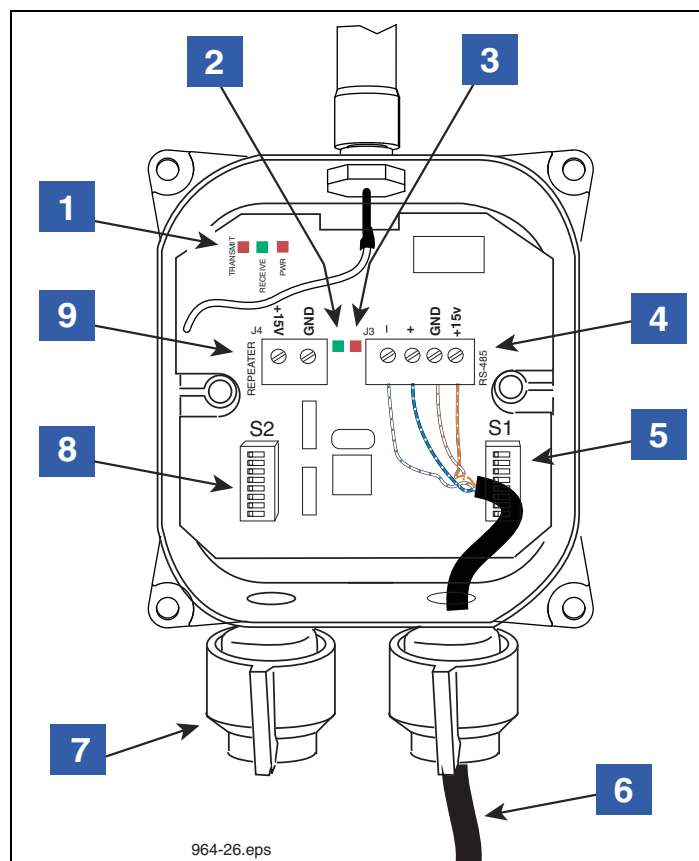

Figure 23. Wiring The Receiver
6. Note that there are two twisted pair color-coded wires in the cable (e.g., a white with blue stripe and blue with white stripe pair and a white with orange stripe and orange with white stripe pair). One of the pairs is for RS-485 communication (- & + terminals) and the other pair is for Receiver power (+15 Vdc & Gnd). Using Figure 23 as a guide, attach the wires of the two twisted pairs to the RS-485 terminals.
8. If a Repeater is used and powered by the Receiver, push the two wire power cable (to Repeater) through the +15 Vdc cord grip of the Receiver (item 7 in Figure 23).
10. Attach the dc power cable (white to +15 Vdc and black to GND) to the Repeater terminal block (item 9 in Figure 23).
LEGEND FOR NUMBERED BOXES IN Figure 23
1. Use of a single repeater is optional but may improve system performance when installed correctly. The Repeater should be located closer to the device transmitters to rebroadcast messages to the Receiver. Use the 15 Vdc power source provided in the Receiver to power the Repeater, or use a customer supplied non-interruptible, Class 2, 15 Vdc power source. The most common method of powering the Repeater power is to use the Repeater power terminal block J4 in the Receiver (see item 9 in Figure 23).
9. The other end of the Repeater's dc power cable connects to the Receiver's +15 Vdc output terminal (ref. item 9 in Figure 23), or to a non-interruptible, Class 2, 15 Vdc power source.
- 5. DC Power input cable (from Receiver [item 9 connector - see Figure 23], or dc power source)